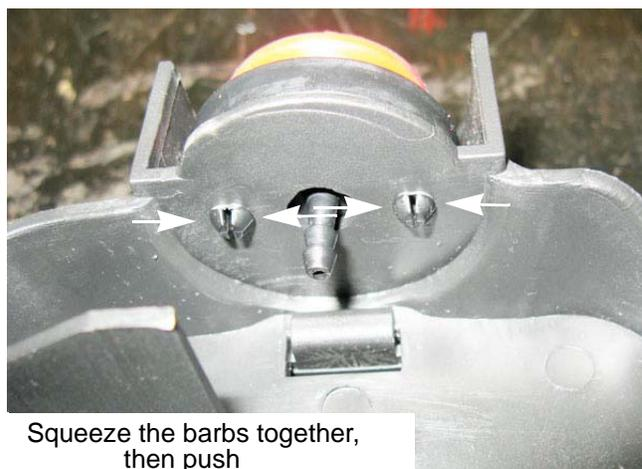

Figure 3.10
7. The primer can be removed from the air filter housing by squeezing together the two sets of barbs while pushing the primer out of the housing. See Figure 3.10.